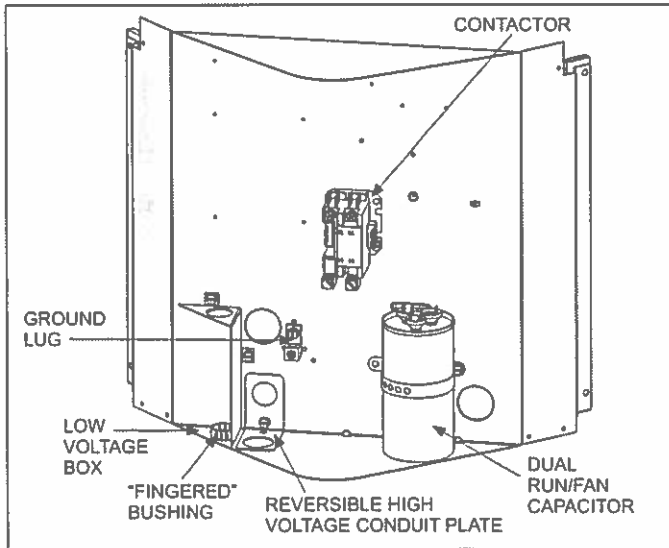

FIGURE 7: Outdoor Unit Control Box
4. Route wires from disconnect through power wiring opening provided and into the unit control box as shown in Figure 7.
1. Route low voltage wiring into bottom of control box as shown in Figure 7. Make low voltage wiring connections inside the low voltage box per Figures 8 & 9.